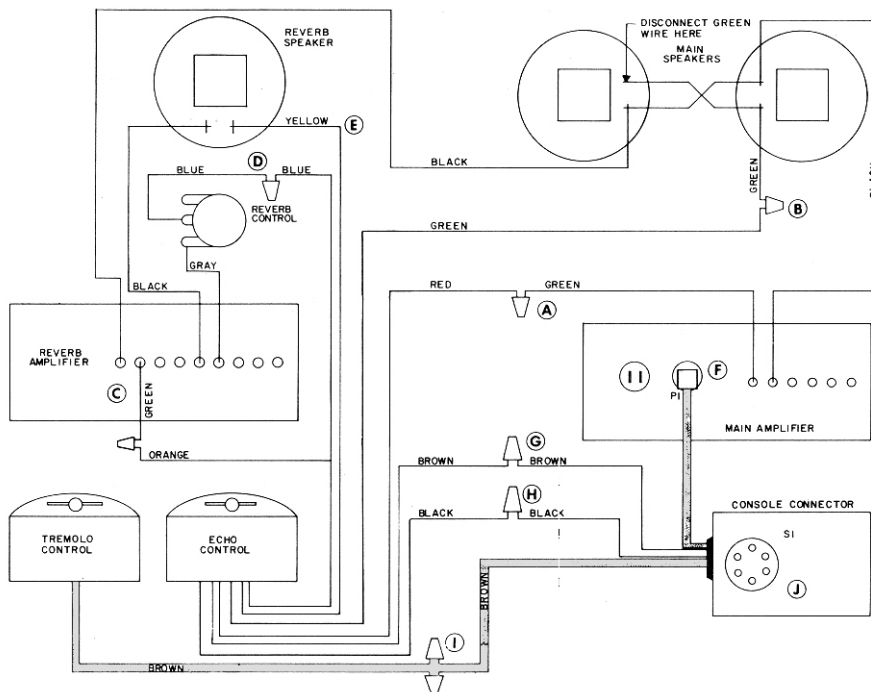

Figure 1. A100 Connections
5. Cut the green lead which connects the amplifier output to the main speakers. (A & B on figures 1&2) Remove 3/8" of insulation from each of the cut ends. Connect the amplifier end of this lead to the red lead from the echo control with a wire nut. Connect the speaker end of the lead to the green lead from the echo control. (B on figures 1&2)
6. Disconnect the reverberation input lead (green) from the main speakers. Strip and connect it to the orange lead from the echo control with the wire nut provided. (C on figures 1 & 2)
7. Detach the "hot" lead (gray or blue) from the reverberation speaker terminal, strip it about 3/8", and connect it to the blue lead from the echo control with the wire nut provided. (D on figures 1& 2)
8. Solder the yellow echo control lead to the "hot" reverberation speaker terminal. (E on figures 1& 2)
9. A100: Connect the plug from the console connector into the 5-contact socket on the rear apron of the power amplifier chassis. (F on figure 1)
10. Connect the brown lead from the echo control to the short, single, brown lead* from the console connector, with the wire nut provided.(G on figures 1 & 2)
11. Connect the black lead from the echo control to the black lead from the console connector, with the wire nut provided. (H on figures 1 & 2)
12. Connect the brown double wire from the tremolo control to the short, double, brown wire from the console connector, with the wire nuts provided. (I on figures 1&2)
8. Connect the brown lead from the echo control to the brown lead from the console connector with the wire nut provided. (G on figures 1 & 2)
9. Connect the black lead from the echo control to the black lead from the console connector with the wire nut provided. (H on figures 1&2)
10. Connect the brown wire from the tremolo control to the short wires on the console connector with the wire nuts provided. (I on figures 1&2)